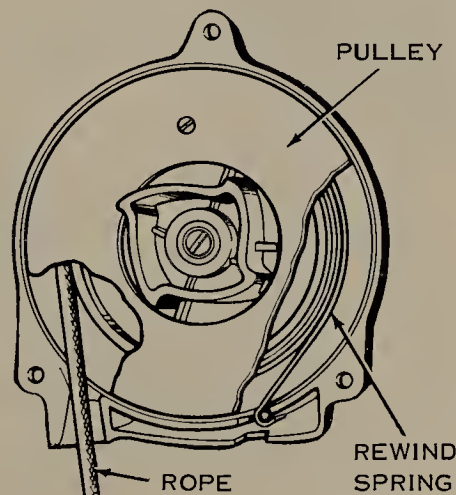

FIGURE 12.20 Rope-rewind starter partly cut away so rewind spring can be seen. (Lawn Boy Division, Outboard Marine Corporation.)
12.4 Lawn Boy C-10 and C-12 Rope-rewind Starters. These two models are very similar in construction. Figure 12.20 shows the principle of operation. A spring-loaded pin, attached to the flywheel, engages with the starter pulley so the flywheel turns when the pulley is rotated. The pulley rotates when the rope is pulled. This not only